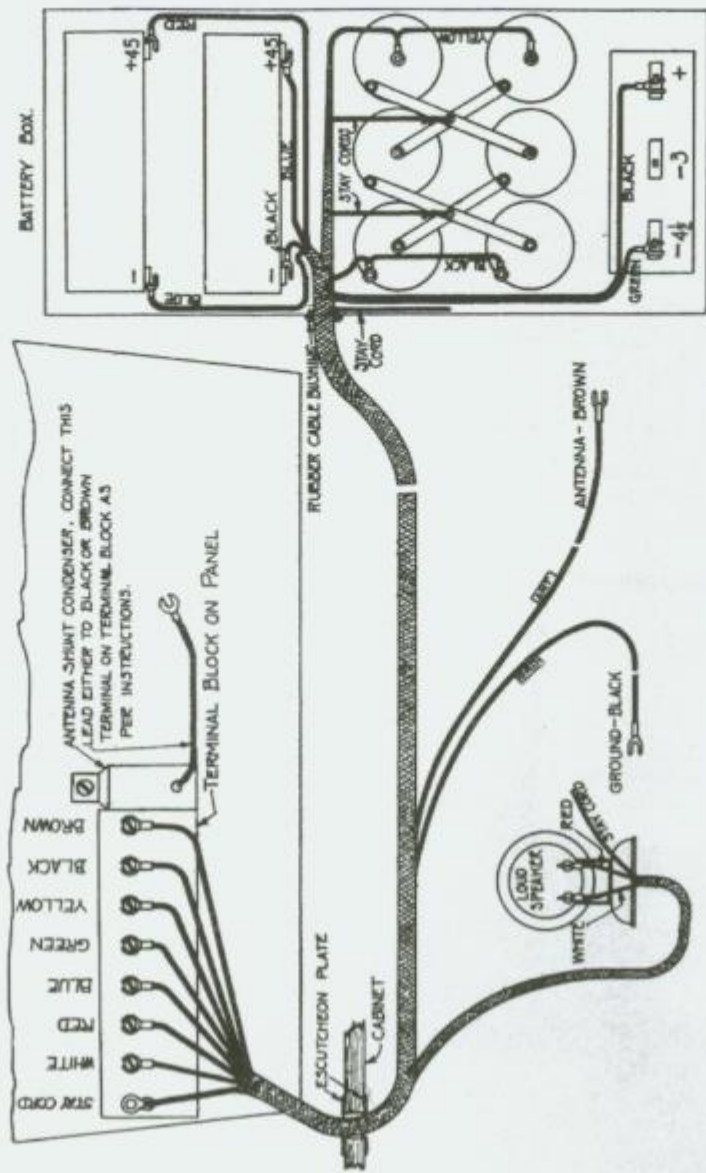

FIG. 4—CABLE CONNECTION OF RADIO LA IX LOUD SPEAKER AND BATTERY
If an indoor antenna of less than 40 ft. is used, the flexible lead on shunt condenser, Fig. 4, must be connected to the brown or antenna terminal on the terminal board of the Radiola IX. Should a longer or outside antenna be used, this flexible lead should be connected to the black, or ground terminal on the terminal board, which throws the condenser out of circuit.
The "A" batteries must be placed in the box with their terminals as shown in Fig. 4. Remove thumb screws and place special connector on batteries as shown. This connects the batteries in three series groups, of two cells each in parallel. The yellow leads are connected to the center or positive terminal of the "A" battery and the black leads to the outside or negative terminal.
The method of connecting the "B" battery is clearly shown in the diagram in the battery box, Fig. 4. The leads are sufficiently long to permit making the connection outside the box for convenience. Then the batteries should be placed in the box as shown, taking care that no terminals touch the box.
1. Be sure that set is properly connected, as per diagram, Fig. 4.